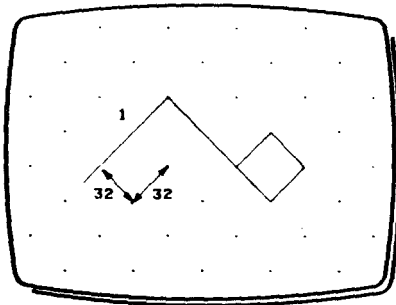

Fig 1
- 2 Draw a line at random as (1) in Fig 1.
- 4 Select N-TAN, the cursor now locks onto two axes. In line with (1) in Fig 1, and at right angles to it.